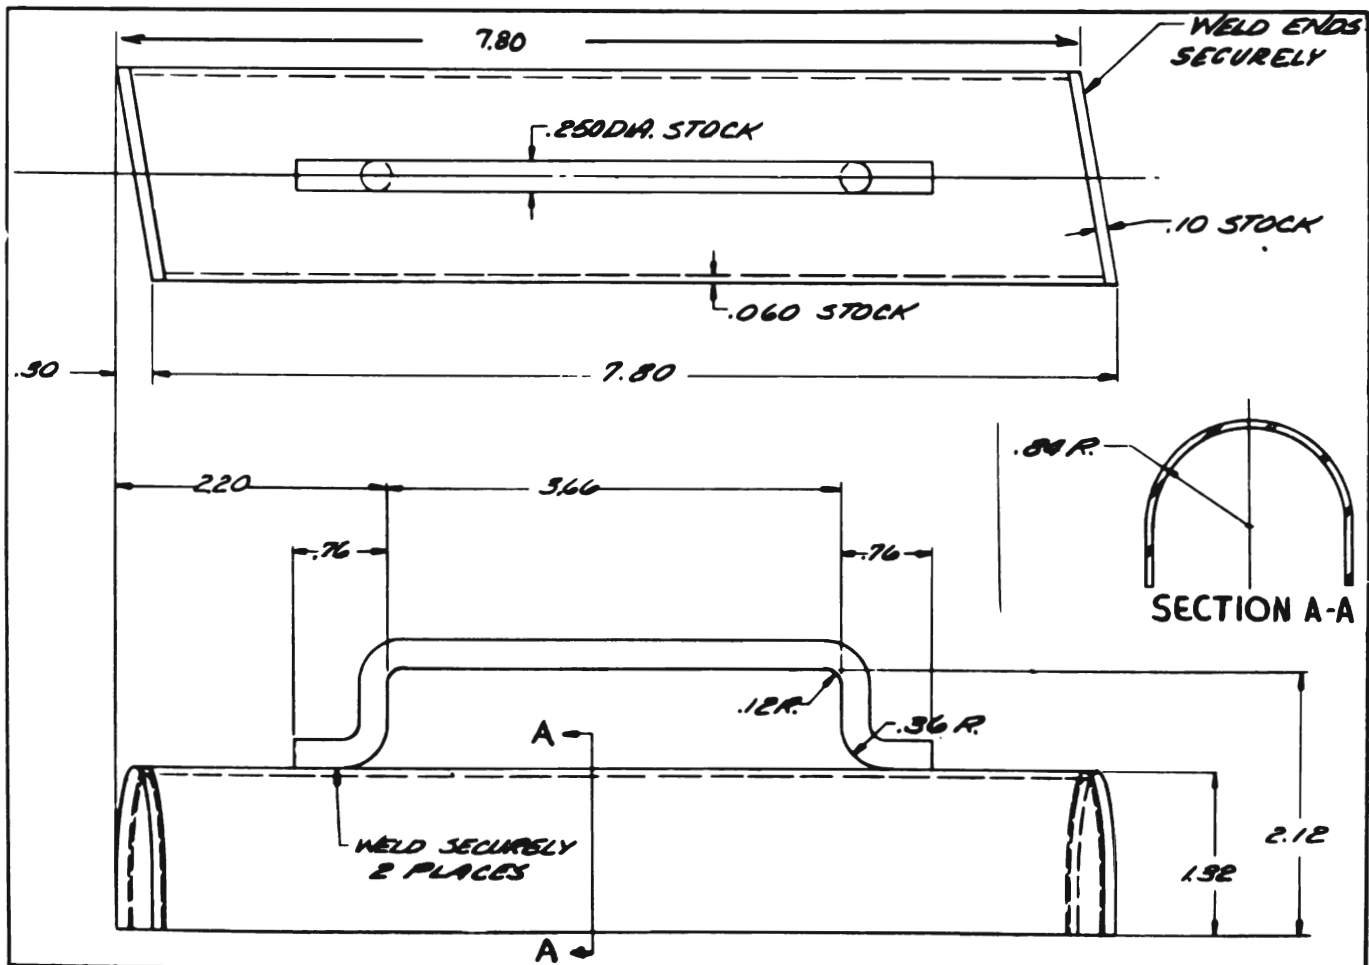
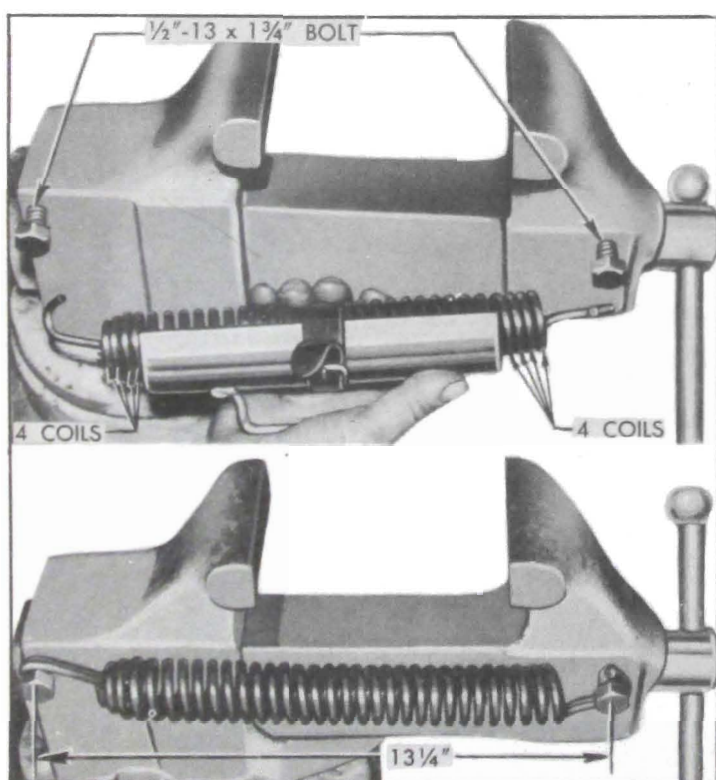

Figure 12-5—Hood Hinge Spring Tool
Figure 12-6—Vise Used to Stretch Hinge Spring
Figure 12-5 shows details of a tool for removing and installing hinge springs. The tool should be made locally, making sure that all metal is of indicated thickness for necessary
Figure 12-6 shows a vise equipped with two bolts to be used for loading and unloading the spring in removal tool. Drill and tap  $\frac{5}{8}$ " deep for two  $\frac{1}{2}$ "-13 bolts  $1\frac{3}{4}$ " long. Bolts should be located on the stationary and movable jaws so that the distances between them may be changed from  $9\frac{1}{2}$ " to  $13\frac{1}{4}$ " by opening the vise.
2. Place spring removal tool (fig. 12-5) on spring so that four coils are exposed at each end of tool, force ends of tool between spring coils as far as possible, then wrap a suitable strap around spring and tool to avoid slippage. See figure 12-6.
5. Hook ends of spring over bolts installed in vise (fig. 12-6), open vise until removal tool and strap can be removed then close vise to remove spring.
1. Close vise until ends of spring can be hooked over the bolts then open vise until distance between bolt centers is  $13\frac{1}{4}$ ". See figure 12-6.
2. Install the removal tool (fig. 12-5) on spring so that four coils are exposed at each end, then wrap a strap around spring and tool before removing the assembly from vise.